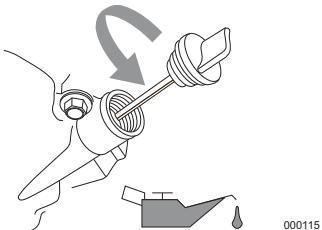

Figure 4-1. Engine Oil Fill
4. See **Figure 4-1**. Remove oil fill cap/dipstick and wipe dipstick clean.